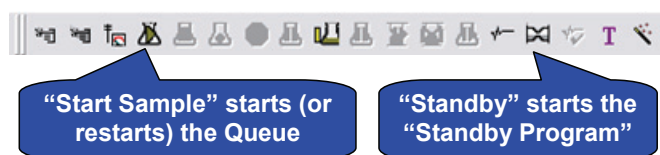

Fig. 34: (Re)starting the Queue and putting the system to Standby mode from the “Acquire” toolbar.
- 3. To start the acquisition, choose **Acquire > Start Sample** from the Analyst menu bar or click “**Start Sample**” on the Acquisition toolbar, Fig. 34.
To continue sample acquisition, choose **Start Sample**, Fig. 34. The Queue Manager continues with the next sample in the Queue.
To manually initiate Standby mode choose **Acquire > Standby** from the Analyst menu bar or click “**Standby**” on the “Acquire” toolbar, Fig. 34.